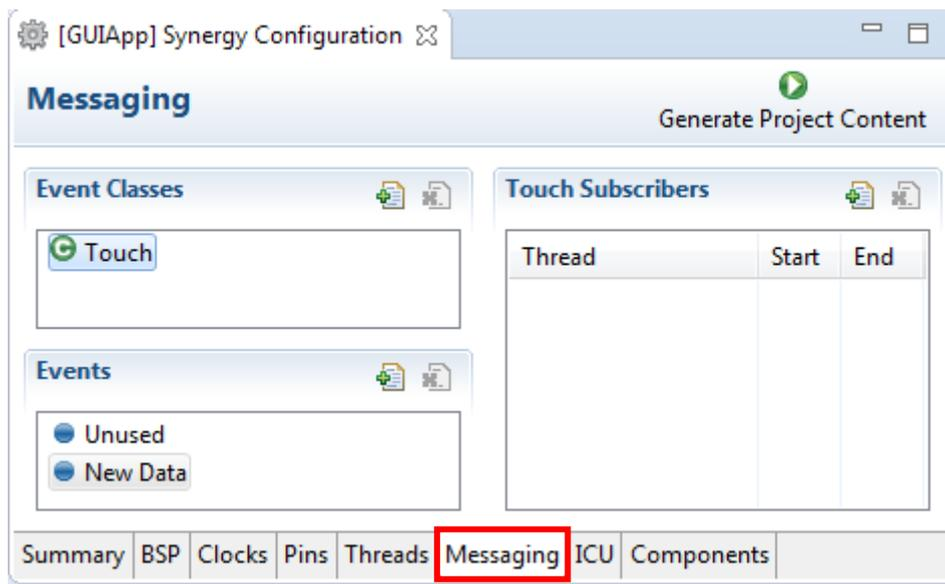

Figure 63 Messaging Tab
36. Select the “Messaging” tab on the Synergy Configuration Window. The window in Figure 63 will be shown.